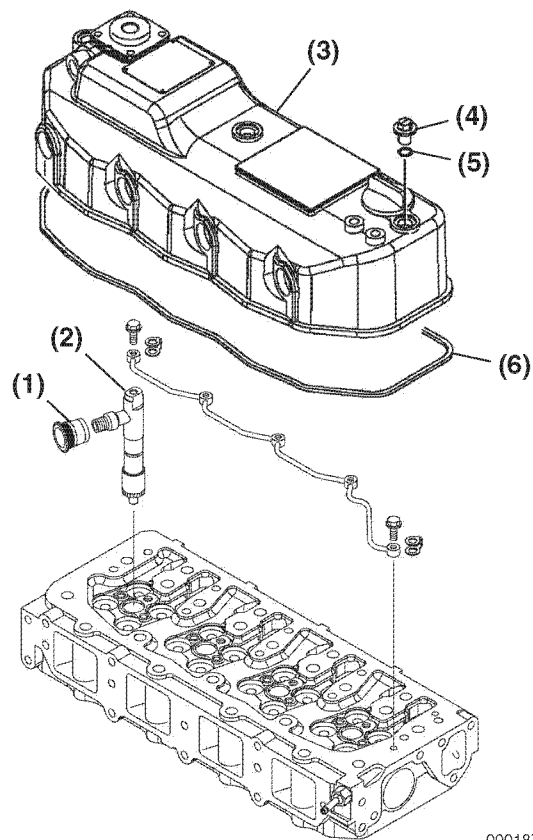

Figure 6-73
1. Lightly grease a new valve cover gasket (**Figure 6-73, (6)**). Place the gasket in the groove of the valve cover (**Figure 6-73, (3)**).
3. Be sure new O-rings (**Figure 6-73, (5)**) are installed on the valve cover nuts. Reinstall and tighten the valve cover nuts (**Figure 6-73, (4)**).
4. Reinstall the fuel injector grommets (**Figure 6-73, (1)**).